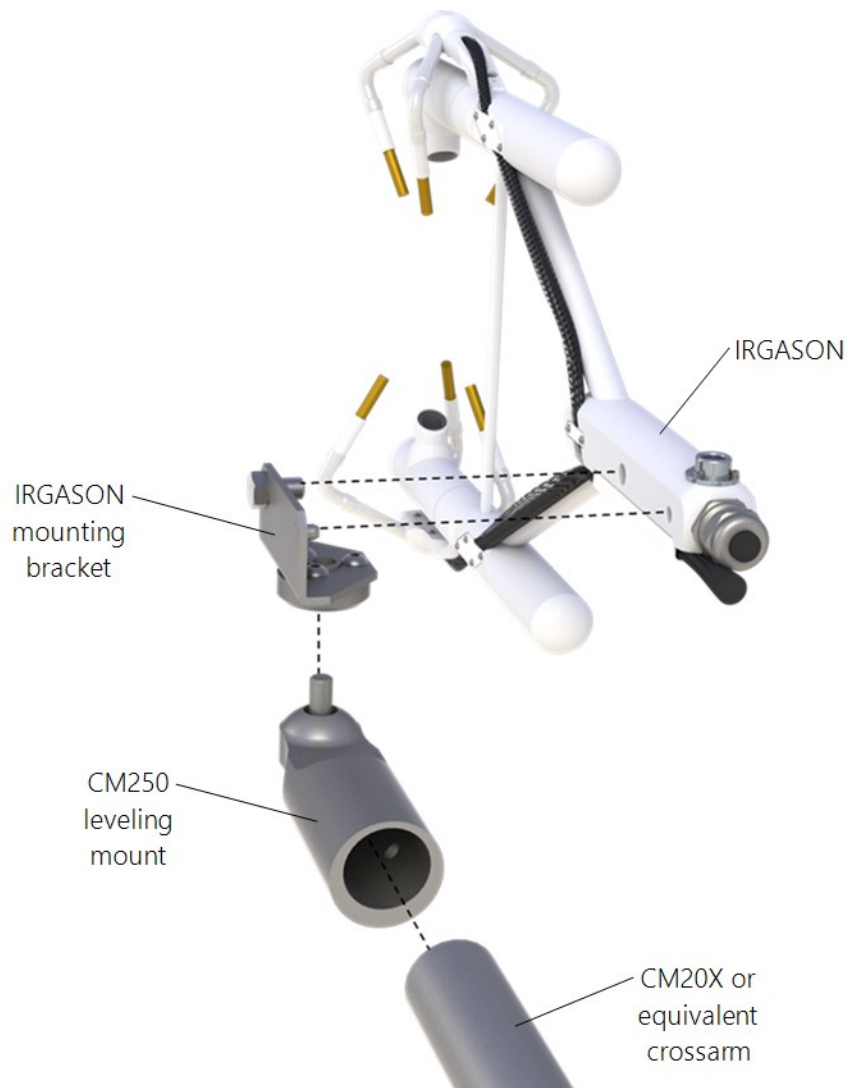

Figure 6-1. Exploded view of mounting the IRGASON
The IRGASON is supplied with mounting hardware to attach it to the end of a horizontal pipe with an outer diameter of 3.33 cm (1.31 in), such as the Campbell Scientific CM202, CM204, or CM206 crossarm (referred to generically as a CM20X crossarm). The following steps describe a general mounting procedure (refer to Figure 6-1 [p. 14]).
3. Bolt the IRGASON mounting bracket to the CM250 leveling mount (see Figure 6-1 [p. 14]).